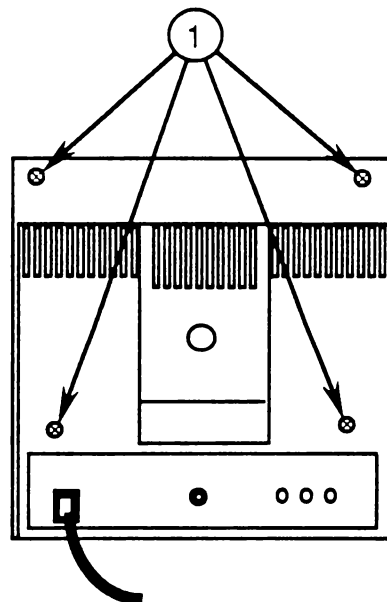

FIGURE 6
4. Replace the four screws (Figure 6, #1) on the back of the monitor.